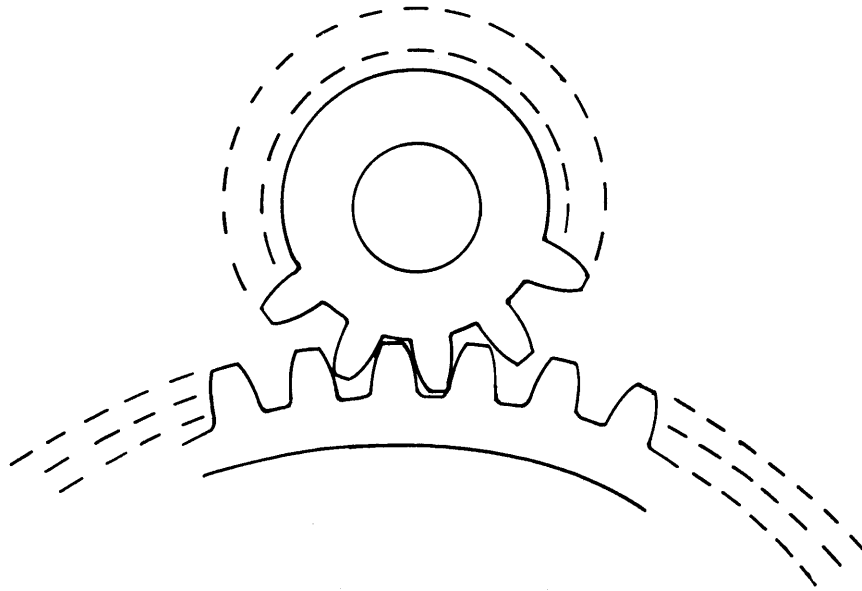

FIGURE 5-3 SERVO GEAR MESH
2.	Observe the position of the servo drive gear with respect to the large gear on the capstan. The capstan should be able to rotate one quarter of a degree to one eighth of a degree (Figure 5-3).
Reference Figure 5-3, page 5-15, and Figure 6-1 on pages 6-3 and 6-5.